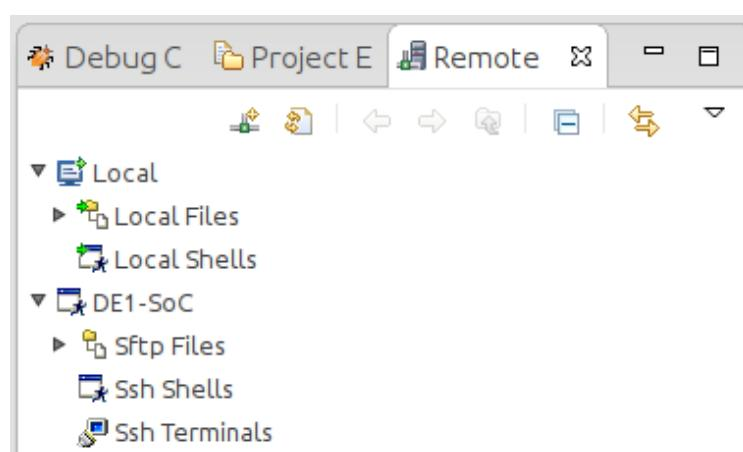

Figure 13-8. New SSH Connection In "Remote Systems" View
14. You should be able to see the remote system in ARM DS-5’s “Remote Systems” view, as shown in Figure 13-8.